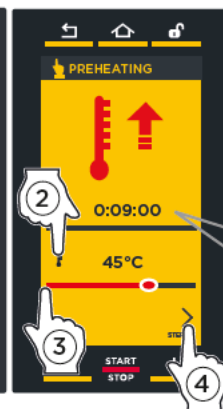

fig. S4
- 2 fig. S4: tap the icon "TEMPERATURE";
- 3 fig. S4: use the **"+** **-"** **BUTTONS** to set the desired value: if you do not want the preheating to be interrupted once the set temperature has been reached, you can insert a time by dragging the **"CLOCK"** field slide bar.
- 4 fig. S4: tap the **>** symbol to return to the parameter setting screen.